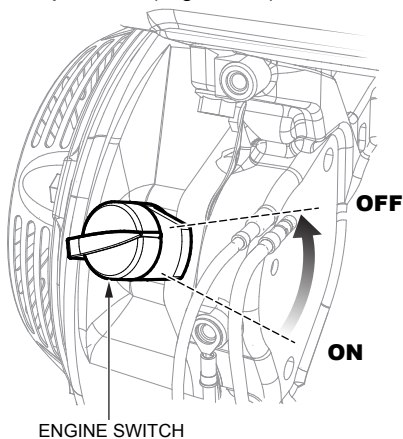

Figure 16. Engine ON/OFF Switch (OFF Position)
2. After the engine cools, turn the engine ON/OFF switch to the **OFF** position (Figure 16).